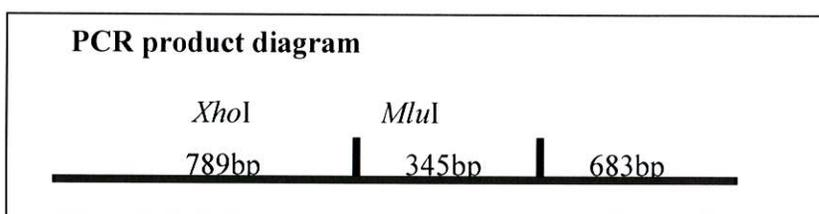

Figure 6. PCR product diagram
9. Run the entire digest on a 1.2%-1.5% agarose gel. Three bands should be seen (789bp, 683bp, and 345bp) (Figures 6 and 7). Three bands will appear only if both *MluI* and *XhoI* have cut. Therefore the digest is diagnostic of the enzyme cuts in the following fashion (Table 7).